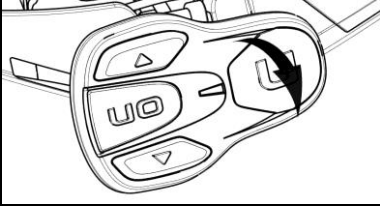

Fig. 27
- Remove the keypad from the shell, as shown in Fig. 27.